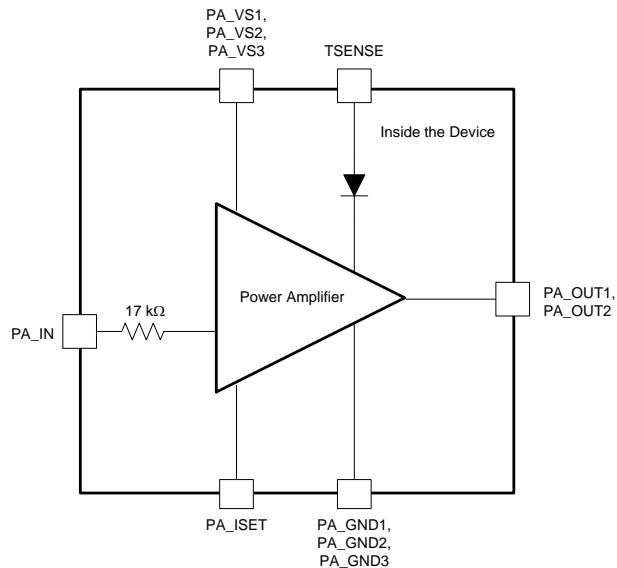

Figure 12. PA Block Equivalent Circuit
The power amplifier (PA) block consists of a high slew rate, high-voltage, and high-current operational amplifier. The PA is configured with an inverting gain of 7 V/V, has a low-pass filter response, and maintains excellent linearity and low distortion throughout its bandwidth. The PA is specified to operate from 7 V to 24 V and can deliver up to  $\pm 1.9$  A of continuous output current over the specified junction temperature range of  $-40^{\circ}\text{C}$  to  $+125^{\circ}\text{C}$ . The PA block is shown in Figure 12.